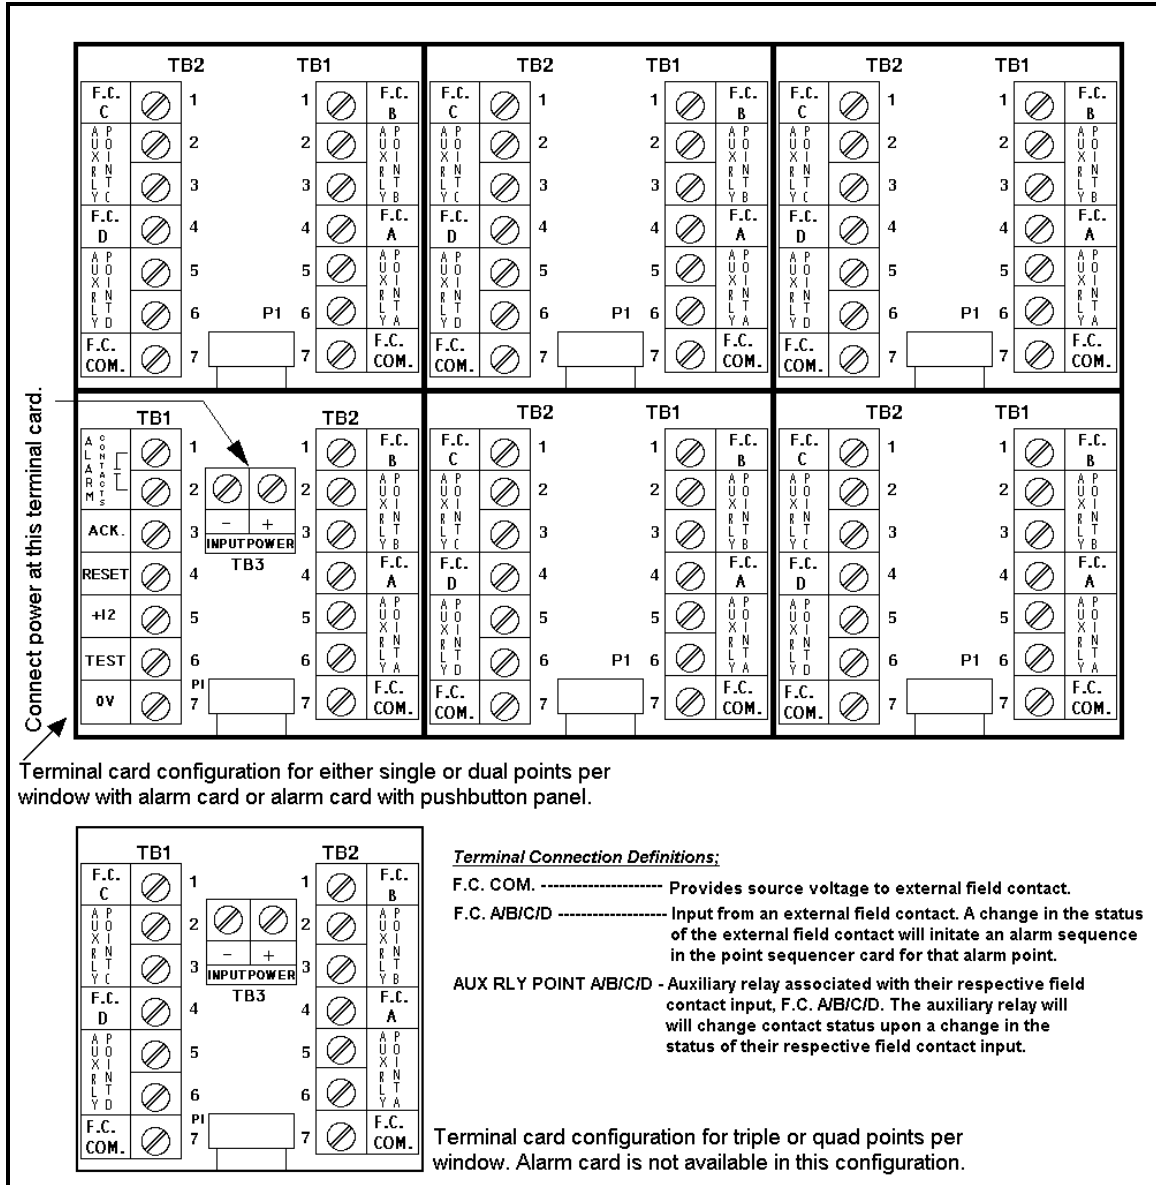

Figure 1 - Rear Panel View, Wiring Terminal Definition
Figure 1 provides the definition of the labels associated to the wire connection terminals.
6) Connect Auxiliary and Main Alarm Relay Wiring to the Annunciator. Refer to figure 1 for the auxiliary and main alarm relay wiring terminal locations. The wiring terminals for the auxiliary relays are located on the rear panel of the annunciator and are labeled as “POINT A/B/C/D AUX RLY”. The wiring terminal for the main alarm relay contacts are located at the lower left corner of the annunciator as viewed from the rear. The terminal is labeled “ALARM CONTACTS.”
Refer to figures 1 and 8 for detailed information on the location of the circuit cards within the A1600 unit.
- 1) **Point card** is inserted at the center position connector within the module. Although the connector is slightly off center, it is still possible to insert the card incorrectly. When inserting the point card insure to note the direction of the components as shown in figure 1.